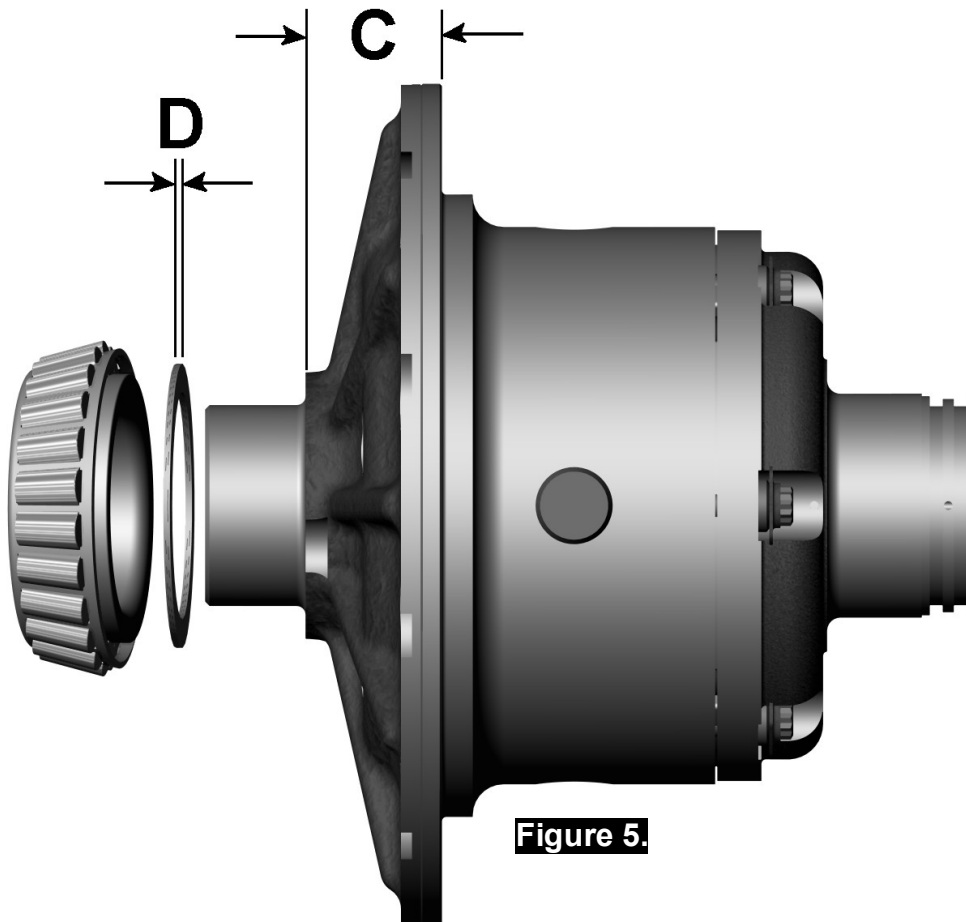

Figure 5.
- ☐ Measure the distance from the *Air Locker* bearing shoulder to the ring gear mounting face (shown as 'C' in Figure 5.) and record this measurement as 'C'.
The thickness of the shim pack required for the *Air Locker* (shown as 'D' in Figure 5.) can now be determined by substituting the measurements taken into the following equation.